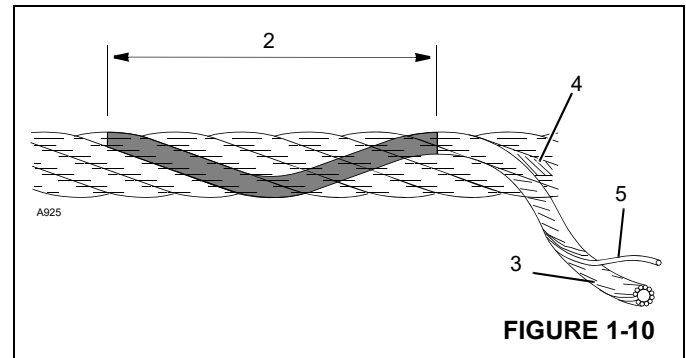

FIGURE 1-10
13. When checking for broken wires (5) (Figure 1-10) relax the rope, move it off "pick-up points", and flex it as much as possible. Defect in the rope is in relation to "Lay Length" (2) which is the distance measured along rope in which one strand (3) makes one complete revolution around the core (4).